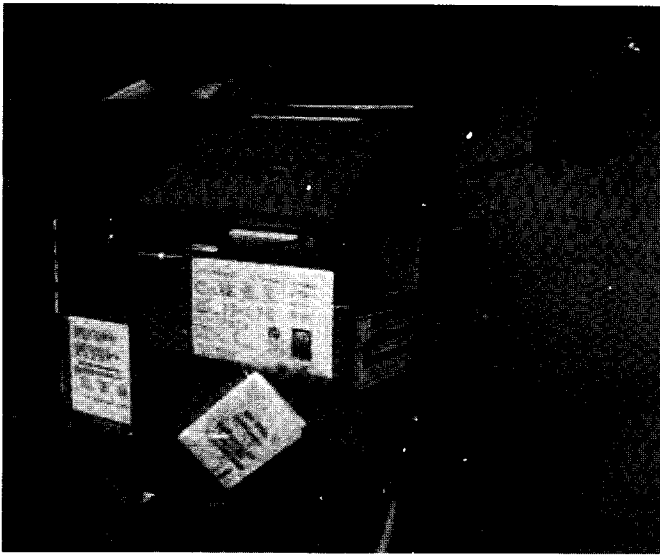

Figure 2
3. Using a 5/16" nut driver, remove the (6) screws securing the PTAC unit to the wall sleeve (3 screws each side). Set screws aside for use in reassembly. Figure 2.